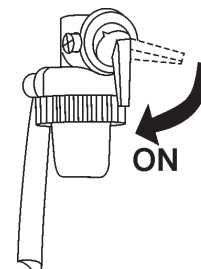

Figure 4. Engine Fuel Valve Lever
1. Place the engine **fuel valve lever** (Figure 4) to the **ON** position.
- Place the engine **fuel valve lever** (Figure 4) to the **"OFF"** position.